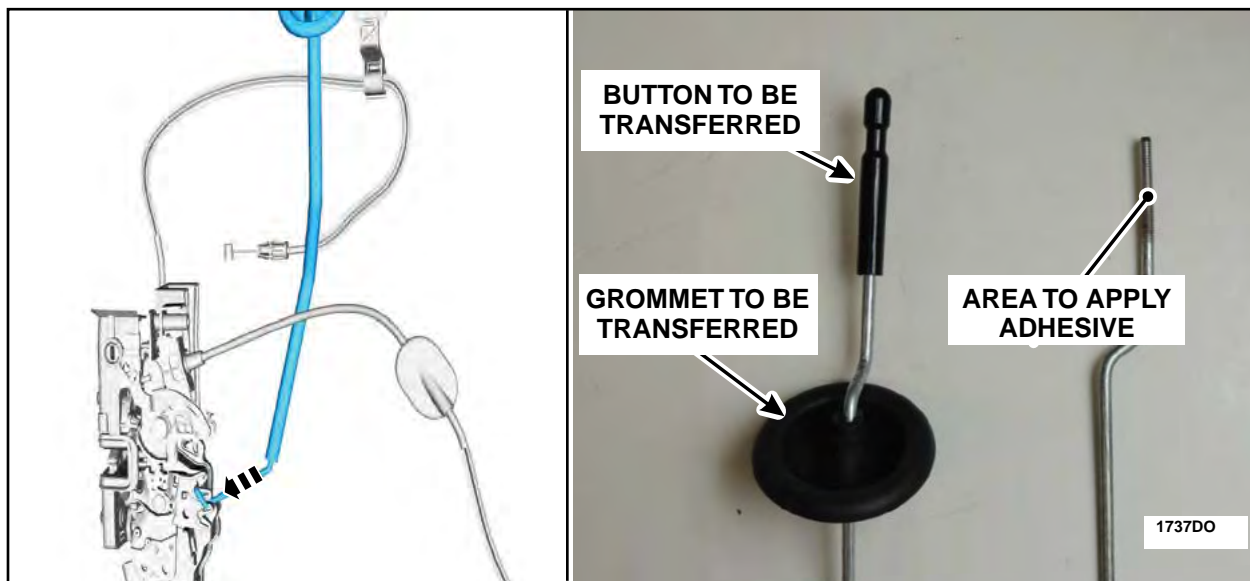

FIGURE 57
8. Lock rod replacement procedure. See Figure 57.